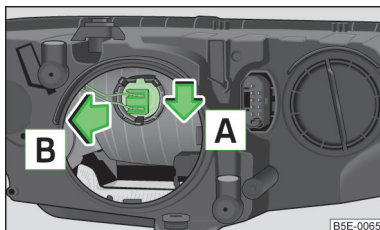

Fig. 213
- Turn the connector with the bulb in downwards in the direction of the arrow » Fig. 213 and remove it in the direction of the arrow .